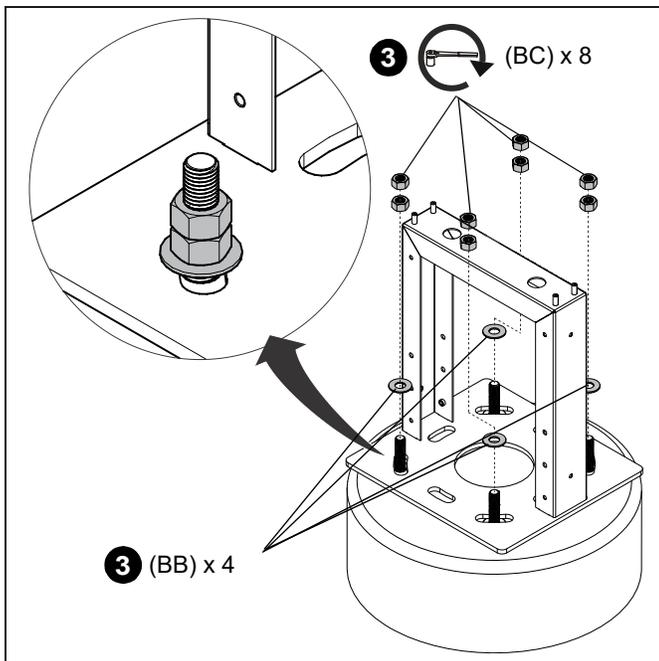

Figure 5
- Once level, secure the base by installing eight hex nuts (BC) and four flat washers (BB) onto the wedge anchors (one washer and two nuts per rod/anchor). (See Figure 5)